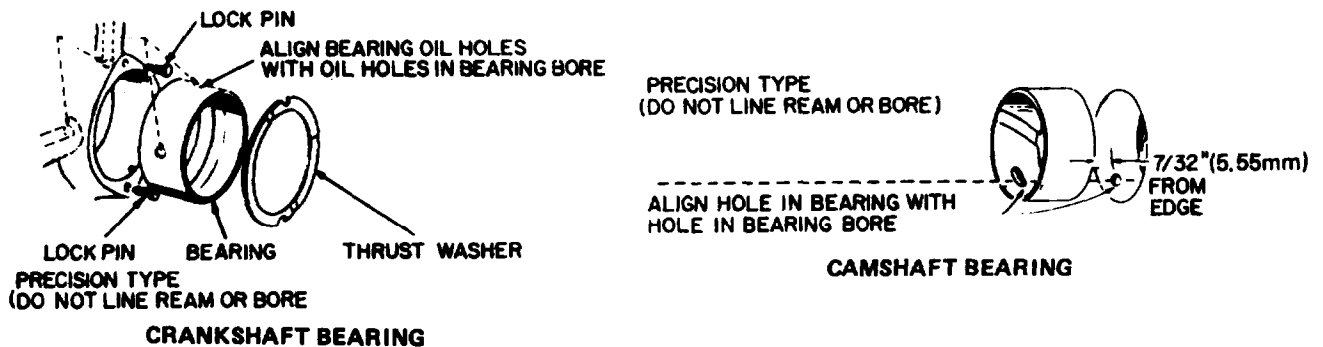

Figure 5-56. Installation of Crankshaft and Camshaft Bearings
b. Removal. Removal of the camshaft or crankshaft bearings requires complete disassembly of the engine. Use a press or suitable drive plug to remove the bearings. Support the casting to avoid distortion and avoid damaging the bearing bore during removal and installation. Use oil on the bearings to reduce friction when installing and again lubricate with oil after installing (figure 5-56). Use combination bearing driver to install the camshaft bearings.
- (1) Camshaft Bearings. See figure 5-56. Replacement camshaft bearings are precision type which do not require line reaming or line boring after installation. Coat the bearing with lubricating oil to reduce friction. Place the bearing on the crankcase over the bearing bore with the lubricating hole (front only) in proper position. Be sure to start the bearing straight. Press the front bearing in flush with the outside end of the bearing bore. Press the rear bearing in until past the ignition plunger hole.
- (2) Crankshaft Bearings. See figure 5-56. New crankshaft main bearings are precision type which do not require line reaming or line boring after installation.